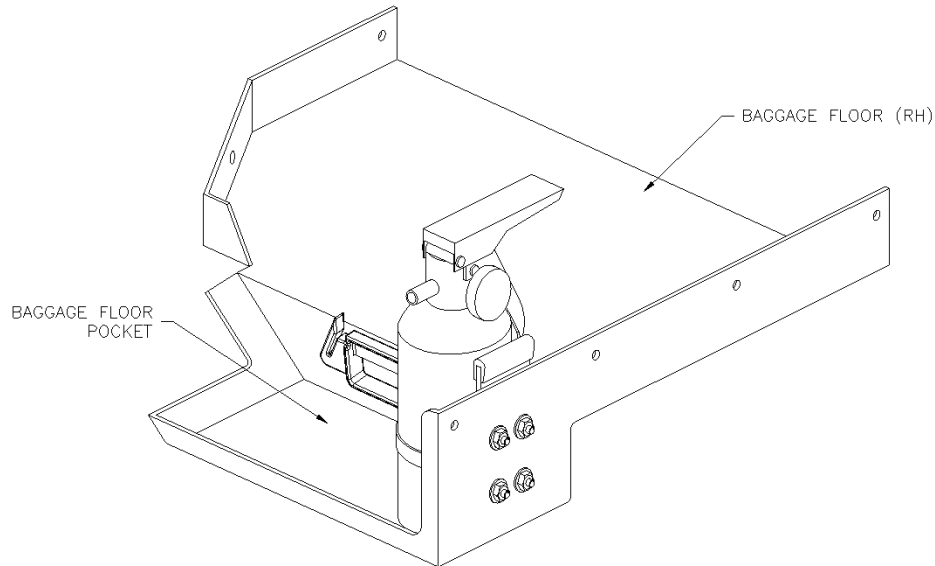

Figure 1
- 10.3 Position rescue hammer bracket (p/n 22-2550-63-01) onto the baggage floor (Reference figure 1 and 2):